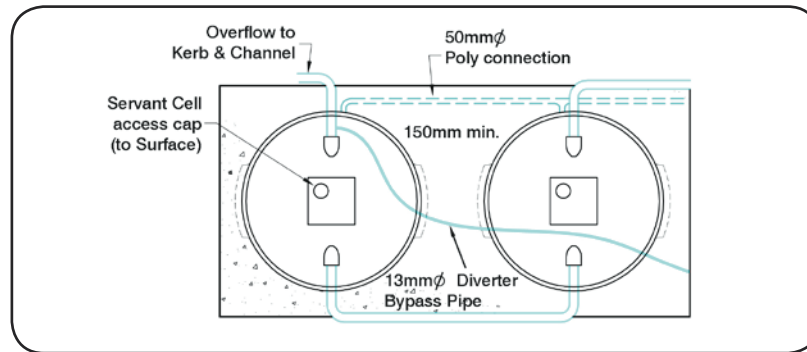

Figure 2: Tank Interconnection
5. **Multiple tanks** - If being installed with additional servant tanks, position other tanks. Remove 50mm bungs at their bases and make the interconnection between the tanks with 50mm high pressure poly pipe (at the base of the tanks). Tighten all connections (refer to figure 2) and surround with aggregate.